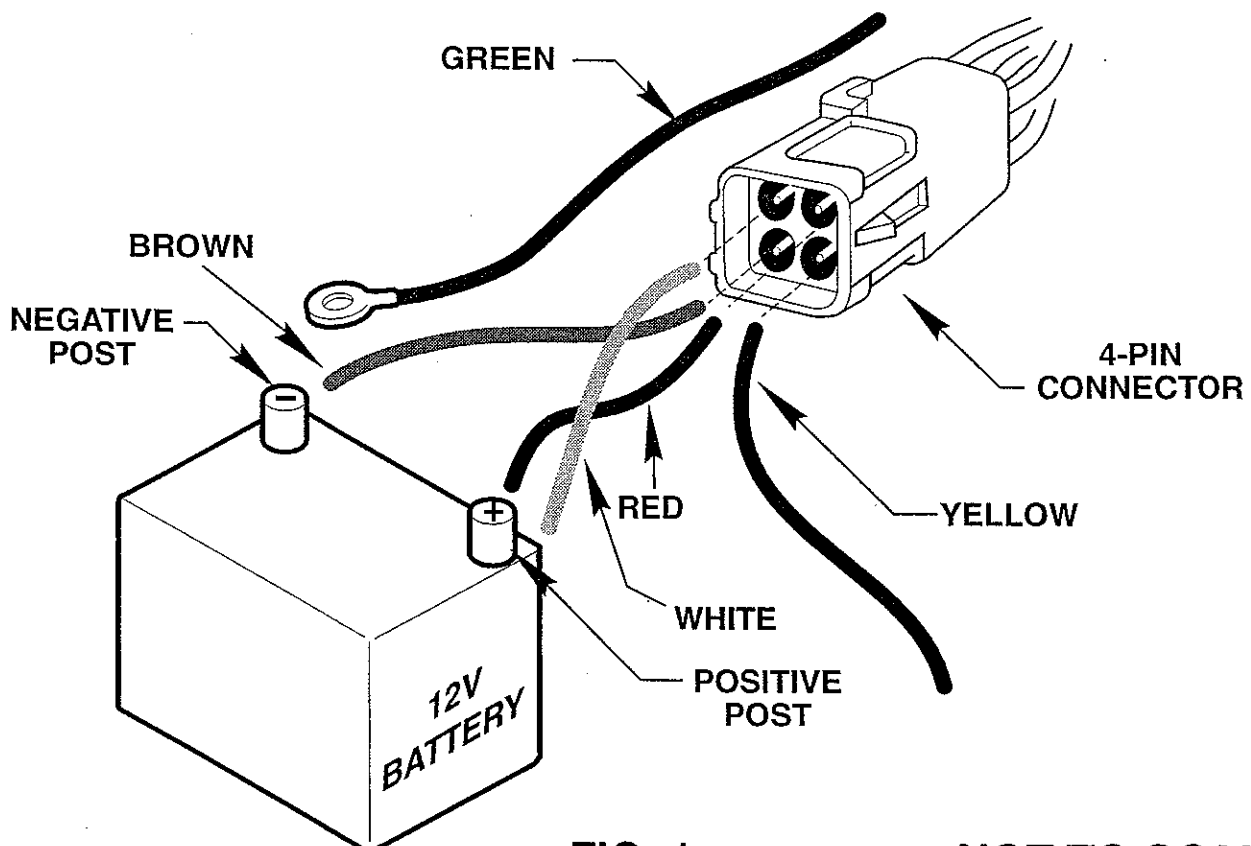

FIG. 1
- ① The steps will install easier if they are first extended. Place the step upside down on a bench or on the floor.
- ② Connect (4) short jumper wires to the 4-Pin connector. Match them color for color. (Fig. 1).
- ③ Attach the green ground wire to the negative post of a fully charged 12 volt automotive battery.
- ④ Attach both the red and white wires to the positive terminal of the battery.
- ⑤ Ground the brown wire to the negative battery terminal. The steps will immediately extend.
- ⑥ Disconnect the wires from the battery.